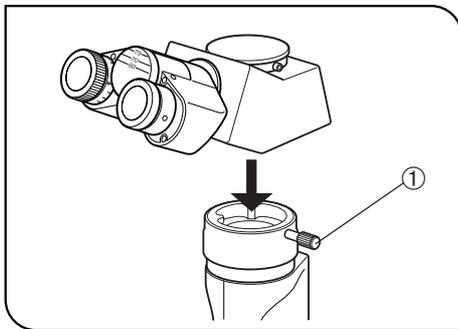

Fig. 32
7 Mounting the Observation Tube (CKX41 Only) (Fig. 32)
1. Loosen the observation tube clamping knob ① to a degree at which the knob does not come out. (Fig. 32)
2. Fit the circular dovetail at the bottom of the observation tube into the observation mount on the microscope frame. Adjust the observation tube until the binocular eyepieces face directly to the front, and then tighten the clamping knob. (Fig. 32)